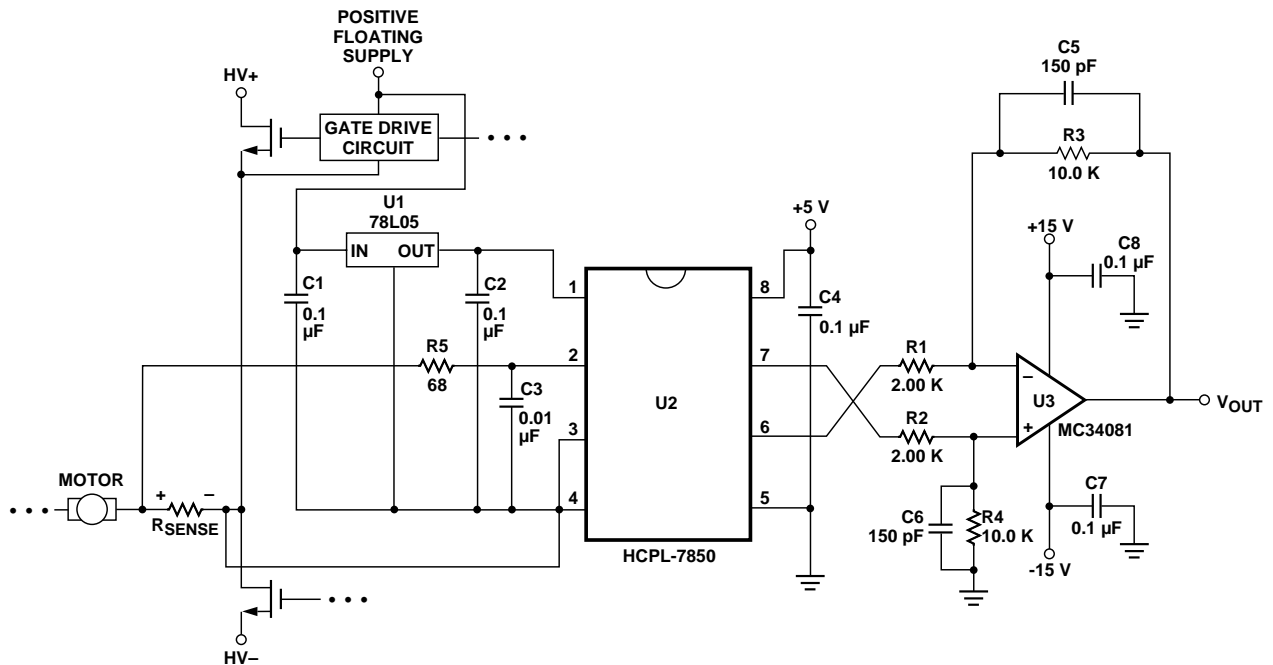

Figure 24. Recommended Application Circuit.
- CMR (also known as IMR or Isolation Mode Rejection) specifies the minimum rate of rise of a common mode signal applied across the isolation boundary at which small output perturbations begin to occur. These output perturbations can occur with both the rising and falling edges of the common mode waveform and may be of either polarity. A CMR failure is defined as a perturbation exceeding 200 mV at the output of the recommended application circuit (Figure 24). See Applications section for more information on CMR.
The recommended application circuit is shown in Figure 24. A floating power supply (which in many applications could be the same supply that is used to drive the high-side power transistor) is regulated to 5 V using a simple three-terminal voltage regulator (U1). The voltage from
As shown in Figure 24, a 0.1 μF bypass capacitor (C2, C4) should be located as close as possible to the input and output power supply pins of the HCPL-7850. The bypass capacitors are required because of the high-speed digital nature of the signals inside the isolation amplifier. A 0.01 μF bypass capacitor (C3) is also recommended at the input pin(s) due to the switched-capacitor nature of the input circuit. The input bypass capacitor should be at least 1000 pF to maintain gain accuracy of the isolation amplifier.
The recommended method for connecting the isolation amplifier to the shunt resistor is shown in Figure 24. Pin 2 (V_{IN+}) is connected to the positive terminal of the shunt resistor, while pin 3 (V_{IN-}) is shorted to pin 4 (GND1), with the power-supply return path functioning as the sense line to the negative terminal of the current shunt. This allows a single pair of wires or PC board traces to connect the isolation amplifier circuit to the shunt resistor. In some applications, however, supply currents flowing through the power-supply return path may cause offset or noise problems. In this case, better performance may be obtained by connecting pin 3 to the negative terminal of the shunt resistor separate from the power supply return path. When connected this way, both input pins should be bypassed. Whether two or three wires are used, it is recommended that twisted-pair wire or very close PC board traces be used to connect the current shunt to the isolation amplifier circuit to minimize electromagnetic interference to the sense signal.
The recommended application circuit (Figure 24) includes a post-amplifier circuit that serves three functions: to reference the output signal to the desired level (usually ground), to amplify the signal to appropriate levels, and to help filter output noise. The particular op-amp used in the post-amp is not critical; however, it should have low enough offset and high enough bandwidth and slew rate so that it does not adversely affect circuit performance. The offset of the op-amp should be low relative to the output offset of the HCPL-7850, or less than about 5 mV.
To maintain overall circuit bandwidth, the post-amplifier circuit should have a bandwidth at least twice the minimum bandwidth of the isolation amplifier, or about 200 kHz. To obtain a bandwidth of 200 kHz with a gain of 5, the op-amp should have a gain-bandwidth greater than 1 MHz. The post-amplifier circuit includes a pair of capacitors (C5 and C6) that form a single-pole low-pass filter. These capacitors allow the bandwidth of the post-amp to be adjusted independently of the gain and are useful for reducing the output noise from the isolation amplifier (doubling the capacitor values halves the circuit bandwidth). The component values shown in Figure 24 form a differential amplifier with a gain of 5 and a cutoff frequency of approximately 100 kHz, and were chosen as a compromise between low noise and fast response times. The overall recommended application circuit has a bandwidth of 66 kHz, a rise time of 5.2 μ s and a delay to 90% of 8.5 μ s.